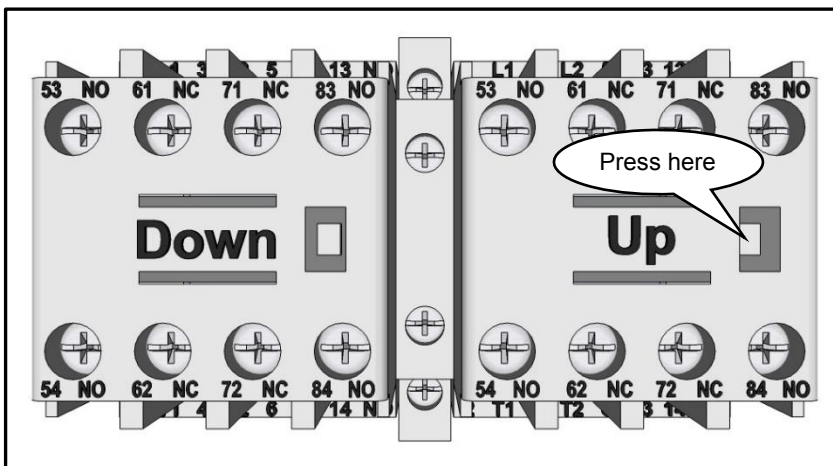

Figure 24
- 2 To check the motor rotation, open the control box and locate the Down "D" and Up "U" contactor. (see Figure 24)